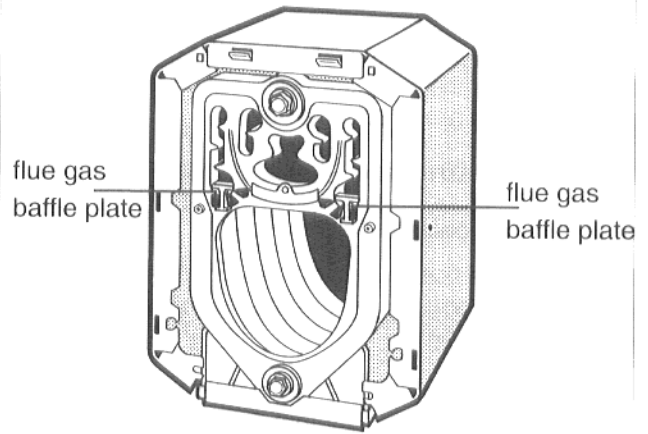

Fig. 28
- When the boiler is delivered, the flue gas baffle plates should be horizontal (Fig. 28).